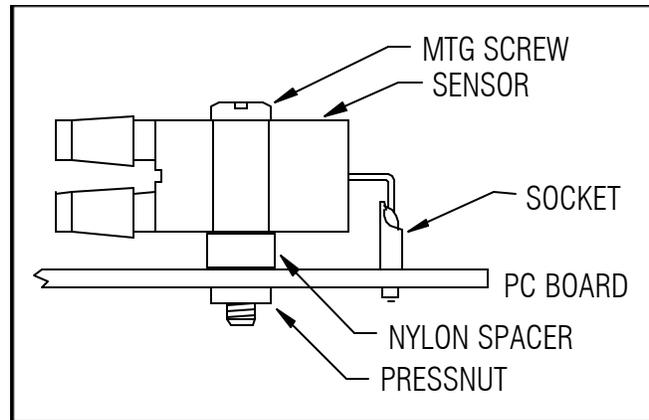

Figure 24 Airspeed sensor mounting detail. The cups on the sockets face the opposite direction on the altitude sensor.
- ___ 3. Install the airspeed sensor, aligning the four leads so they insert into the cups of the socket pins. The socket pins can tilt toward the sensor to better match the leads from the sensor. The rest of the assembly can go where it wants for now. Slip two white .125 thick nylon spacers between the sensor and the PC board. Install two #4-40 x .75 machine screws as shown in Figure 24. Make sure all four leads go into their sockets and snug the screws.